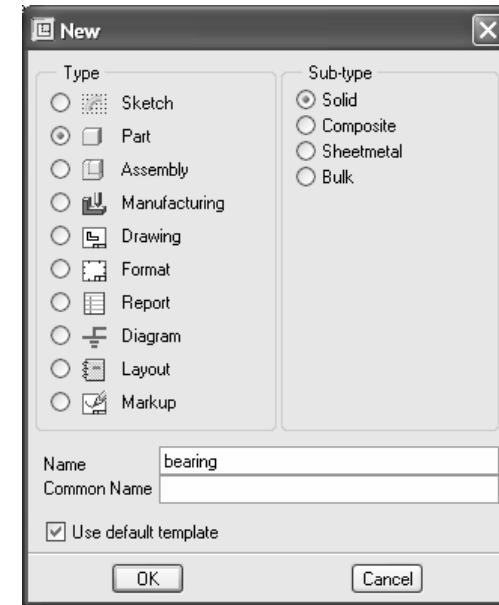
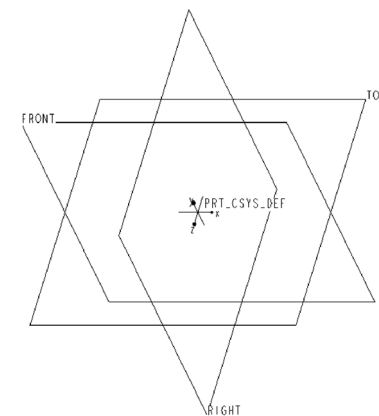

Fig. 2.1.
Fig. 2.2.
2. Open a new file.	We will create the bearing as a solid part. FILE → NEW → Part → Solid → bearing → OK Refer Fig. 2.1. ProE displays the three default datum planes – front, top and right - in the graphics window. Also, the default part coordinate system (PRT_CSYS_DEF) is shown at the intersection of these three datum planes. Refer Fig. 2.2.